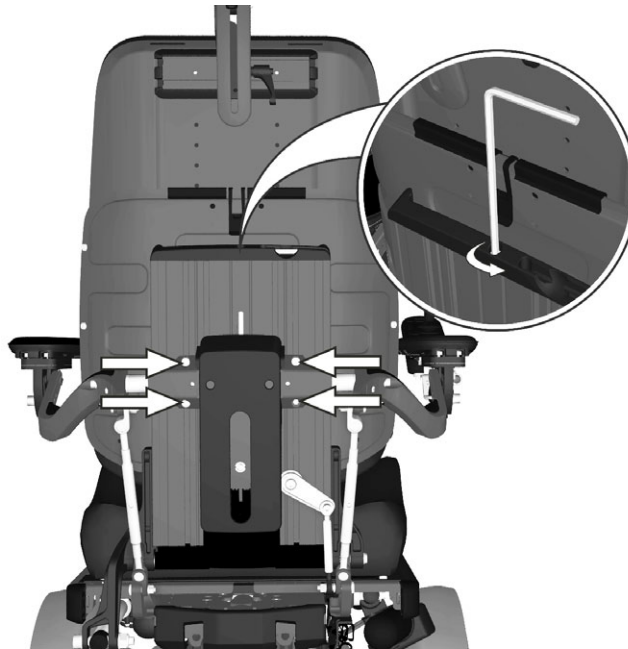

Figure 253. The armrest height is fixed using four screws. To perform this height adjustment, use the adjustment screw in the center of the backrest.
1. Undo the four screws holding the armrest at its current height. See fig. 253.
2. Adjust to the required position using the adjustment screw on the rear of the backrest. See fig. 253.
3. Secure the armrest at the preferred height by tightening the four screws on the rear of the backrest. See fig. 253.